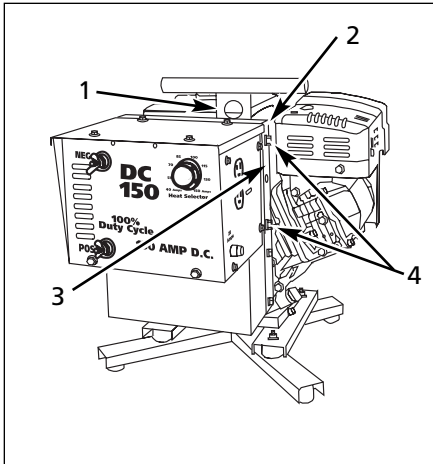

Figure 3 - 150
If the belt or alternator pulley is slipping, the arc will start strong and die away as the alternator slows down. This is noticeable at high amp settings. The belt may or may not make a squealing or screeching noise when it slips. The belt should be tight and have very little "give" when checked by hand after removing the belt guard (See Figure 3, Reference 1).
To adjust the belt (See Figure 3):
1. Remove the belt cover/handle (See Figure 3, Reference 1). Loosen the alternator lock bolt near the fan (See Figure 3, Reference 2).
2. Tighten the belt by inserting a screwdriver in the adjustment hole and pushing up on the spacer behind the lock bolt. Hold the tension (See Figure 3, Reference 3).
2. Loosen the welder unit mounting bolts (4) (See Figure 3, Reference 4) and "rock" the unit forward or back to achieve perfect alignment. Tighten the mounting bolts with belts aligned.